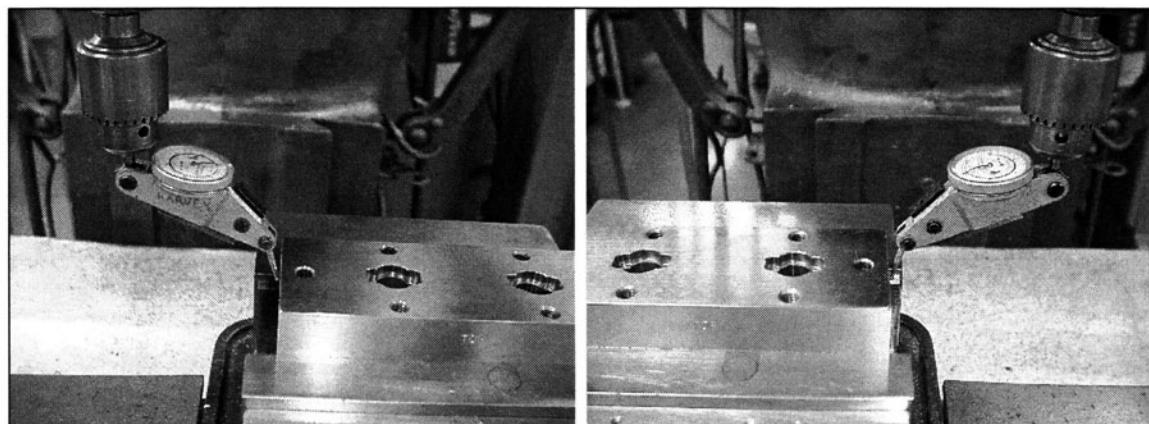

FIGURE 3-31 An indicator is used to precisely find the center of a rectangular part.
45. *In a milling machine, use an indicator and calculator to find the exact center of a plate. (See Fig. 3-31)*